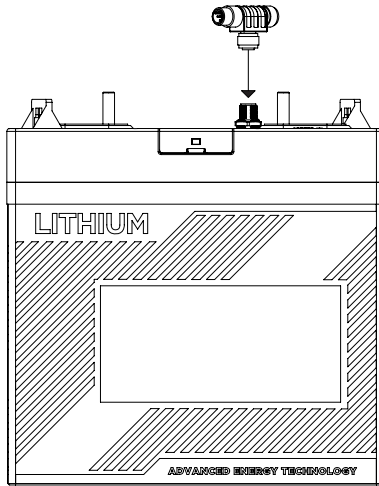

Figure 16. Attaching DLPT Connector to LYNK Port
2. Attach the 950-0038 DLPT Connector to the LYNK Port on each battery (Figure 16). Ensure that the mating connectors are securely fastened.